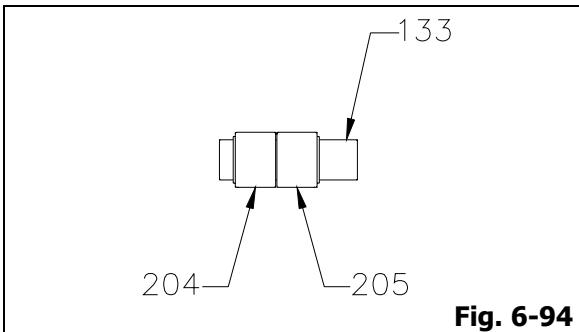

Fig. 6-94
9. For mechanical seals (204 and 205) furnish with jam nuts, where abutment ring (463) is not available, coat shaft sleeve (133) surface with oil, slide the rotary portion of pump end and atmospheric end mechanical seal (204 and 205) carefully onto shaft sleeve (133) by hand until the end of mechanical seals (204 and 205) reach the mechanical seals location marking which have been made on shaft sleeve (133) during disassembly, and screw in mechanical seals jam nuts (Fig. 6-94).